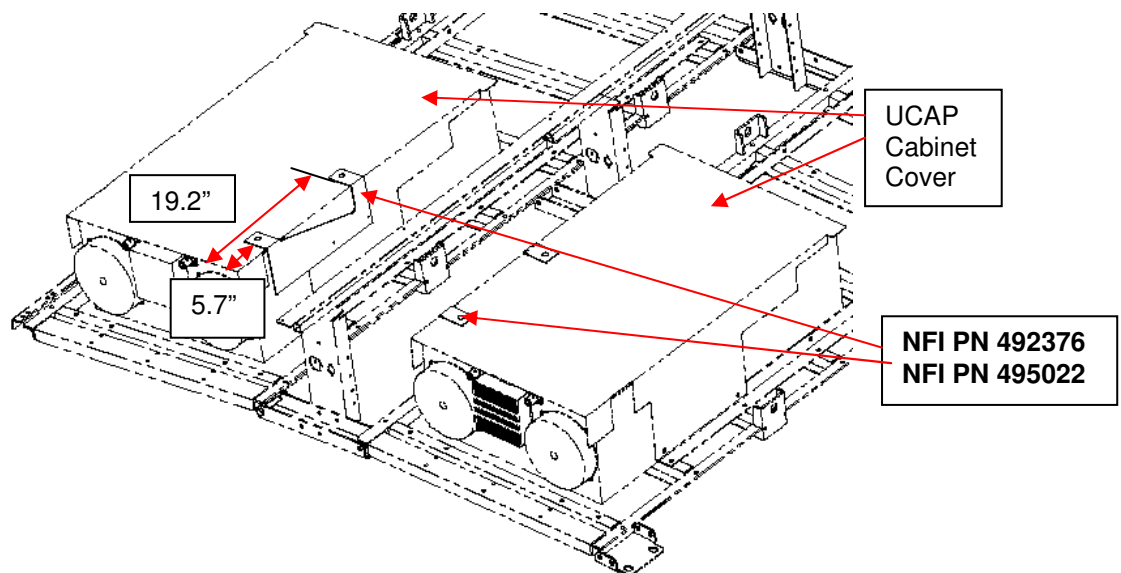

Fig 9 – Location of Brackets on Covers
- l. Secure new Fire Bottle Brackets (NFI PN 492376 and 495022) to the existing UCAP cabinet cover by drilling two ¼” diameter holes and using two (NFI PN 20B04016) ¼ - 20 x 1.0lg bolts, two (NFI PN 333084) ¼ - 20 nylon lock nuts and four (NFI PN 50W04000) ¼ flat washers to hold the brackets down. Add silicone to the bottom of the washers and hardware to ensure no leaks. See Fig 9 for location measurements.